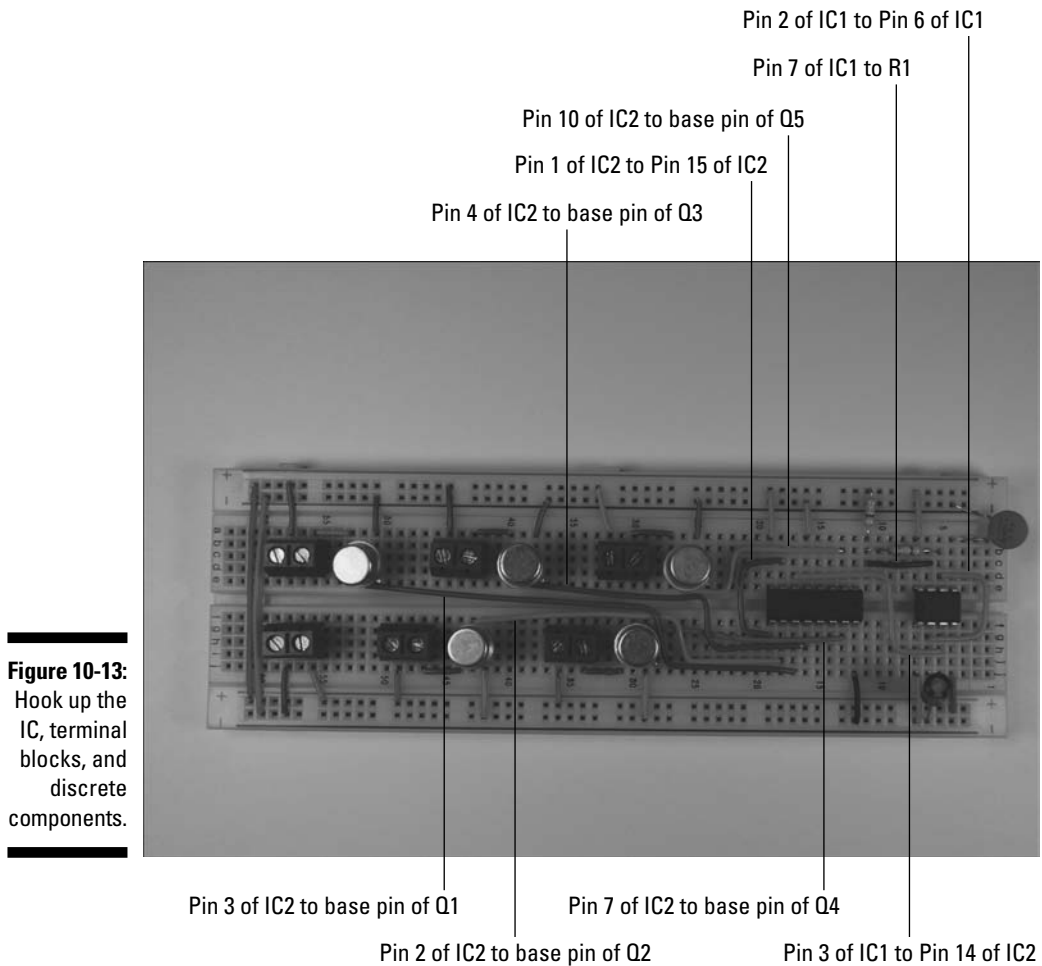

Figure 10-13: Hook up the IC, terminal blocks, and discrete components.
6. Insert wires to connect the ICs, terminal blocks, and discrete components, as shown in Figure 10-13.